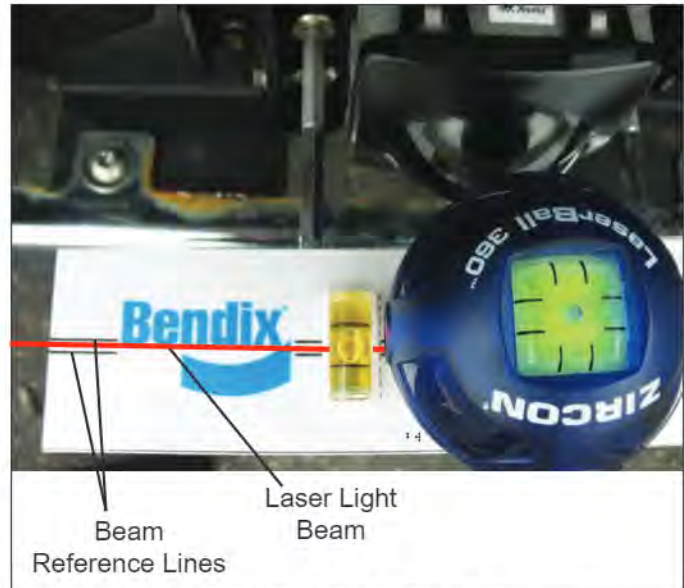

FIGURE 29 - POSITIONING THE LASER LEVEL
4. Turn the switch on the side of the lateral alignment laser level to the on position and place it in its cradle, making sure it is sitting level. Align the laser beam between the reference lines on the Bendix ACB alignment tool left or right. See Figure 29.